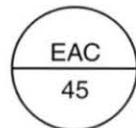

Figure 50. Instrument Tag
7. Determine the measured variable indicated in the instrument tag in figure 50.